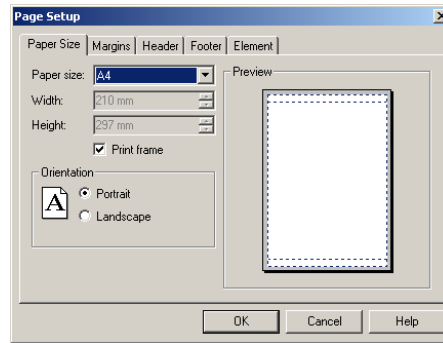

Figure 49: Designer Page Setup dialog box
- 2 On the menu, choose File>Page Setup. A dialog box will be displayed. See *Figure 49*, page 64.